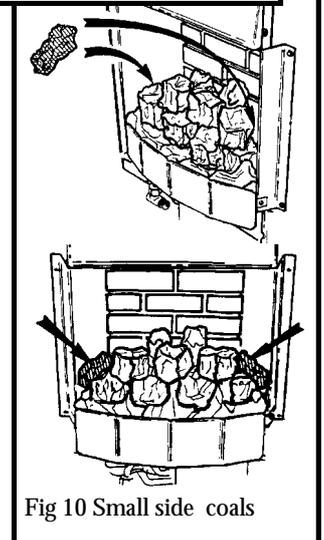

Fig 10 Small side coals
4.3 Place the two remaining small coals alongside the main coals (See figure 10)